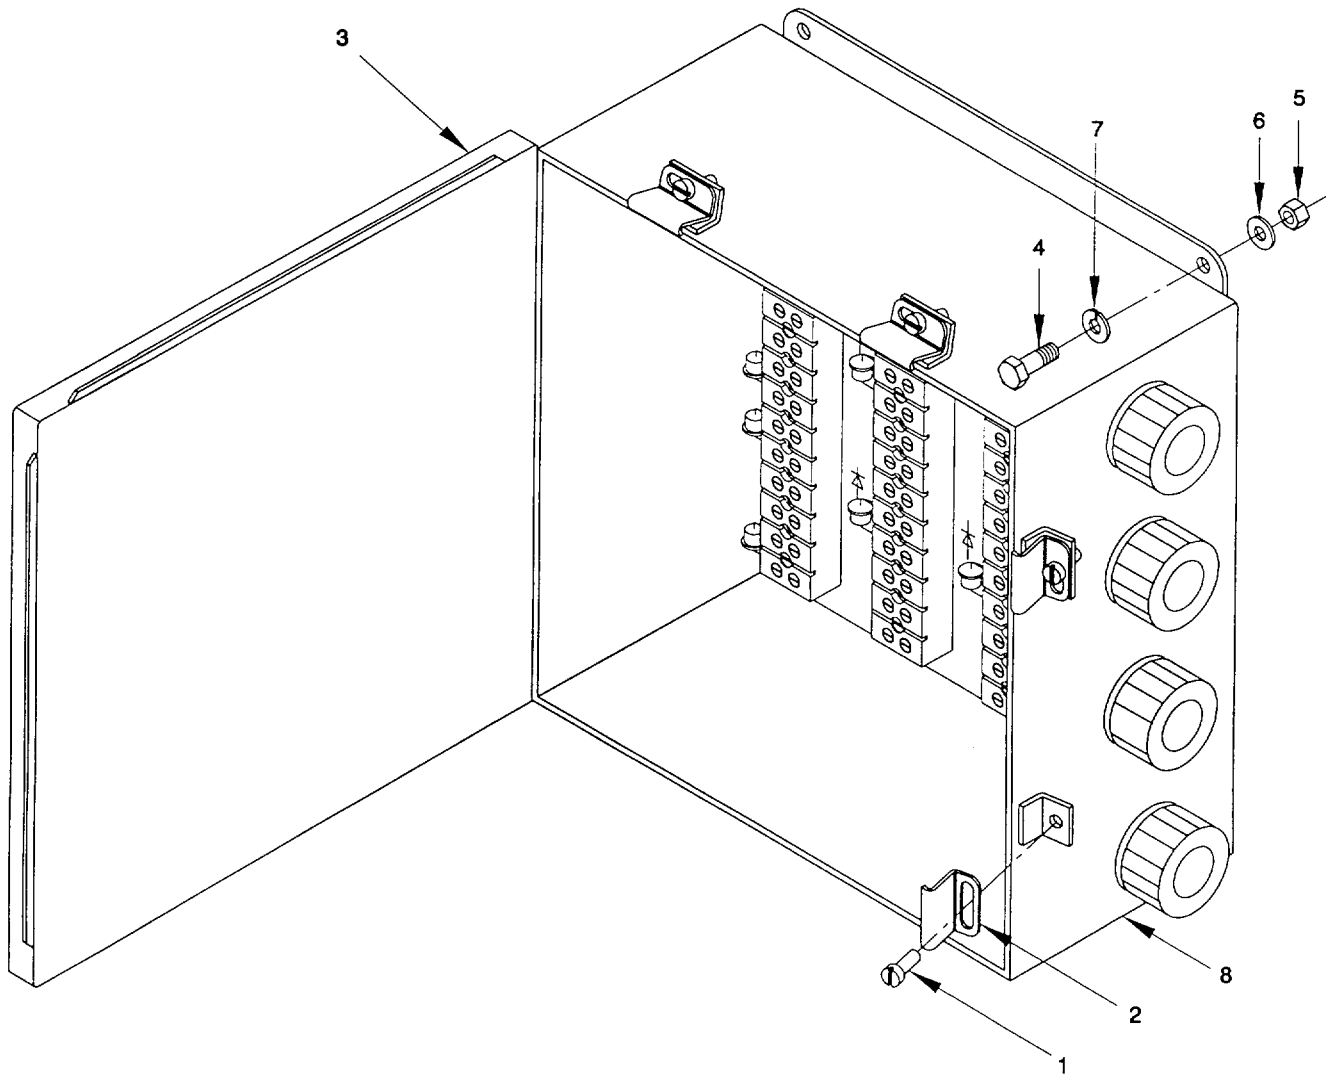

Figure 2-48. Bilge Pump Control Assembly "A5", Remove/Install
a. Remove. (figure 2-48)
- (1) Remove six screws (1) and six latches (2) from enclosure (8).
- (2) Open hinged door (3) to gain access to electrical components within the enclosure.
- (3) Inspect all electrical components for corrosion, deterioration, dirt, condensation, loose hardware or electrical wiring connections, or other damage. Repair is limited to replacement of components.
- (4) Tag all electrical connections before disconnecting electrical wiring. Refer to Appendix G, for wiring list and terminal layout.
- (5) Disconnect and remove all incoming electrical wiring connections to the enclosure (8).
- (6) Clean inside of enclosure to remove condensation or loose dirt.
- (7) Remove and collect six capscrews (4), six nuts (5), six flat washers (6), six lock washers (7) and enclosure (8).
b. Install. (figure 2-48)
- (1) Align enclosure (8) with the mounting hardware holes.
- (2) Coat all fasteners with sealing compound before installation of mounting hardware.
- (3) Install six capscrews (4) with six attaching flat washers (6) to the enclosure (8) and secure with six lock washers (7) and six nuts (5).
- (4) Reconnect all tagged electrical connections within the enclosure (8).
- (5) Shut door (3) and install six latches (2) and six screws (1).
- (6) Verify the Single Bilge Pump Control Assembly is properly functioning.